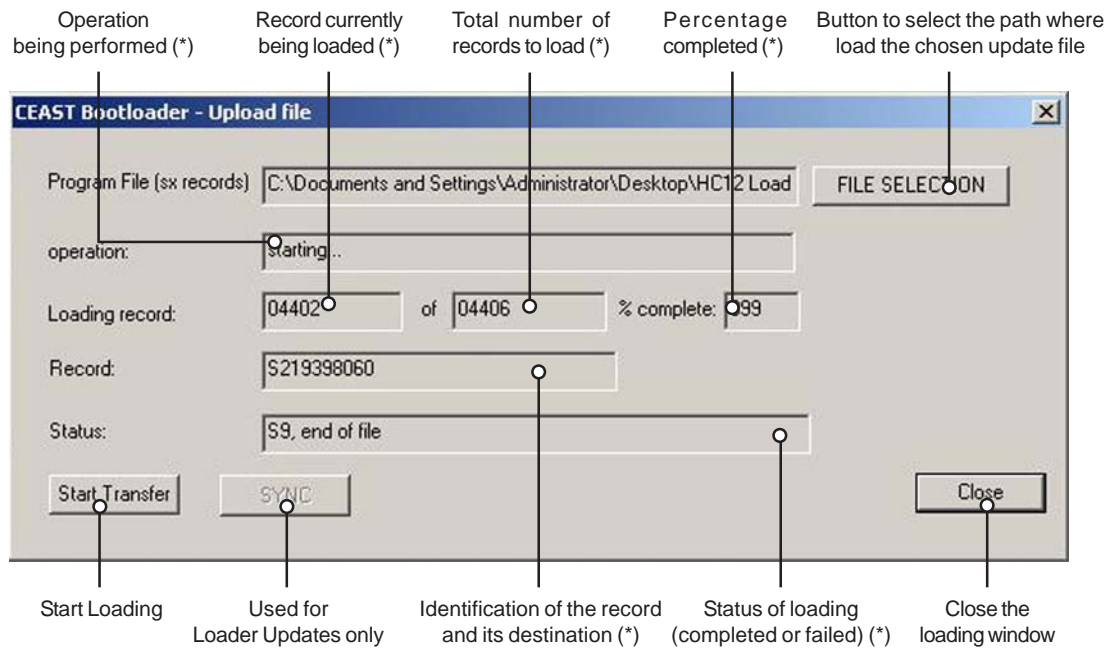

Fig. 4
- ▶ - If the loading is completed switch-off the instrument and click on **“Close”** button to close the window (Fig. 4).